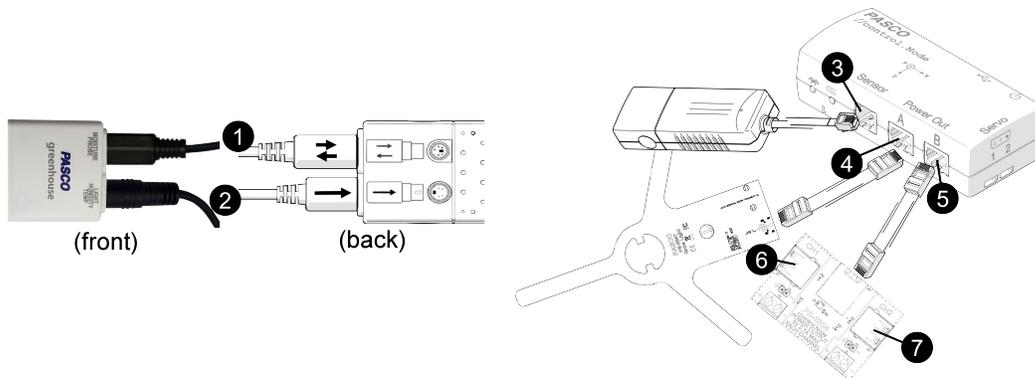

Figure 3. Hardware setup
1. Connect the moisture probe **(1)** and light, humidity, and temperature sensor cables **(2)** to the Greenhouse Sensor as shown in Figure 3. Plug the sensor into the //control.Node **(3)**.